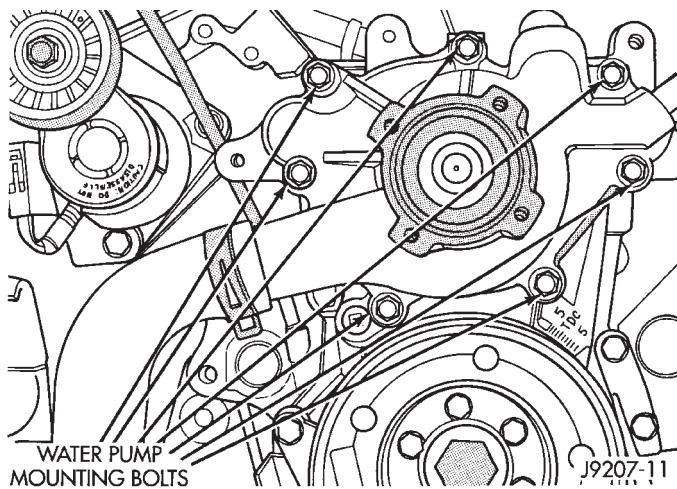

Fig. 16 Water Pump Bolts—5.2L Engine—Typical
(12) Remove seven water pump mounting bolts (Fig. 16).
- (1) Clean gasket mating surfaces.
- (2) Using a new gasket, install water pump to engine as follows: Guide water pump nipple into bypass hose as pump is being installed. Install water pump bolts (Fig. 16). Tighten water pump mounting bolts to 40 N•m (30 ft. lbs.) torque.
- (3) Spin water pump to be sure that pump impeller does not rub against timing chain case/cover.